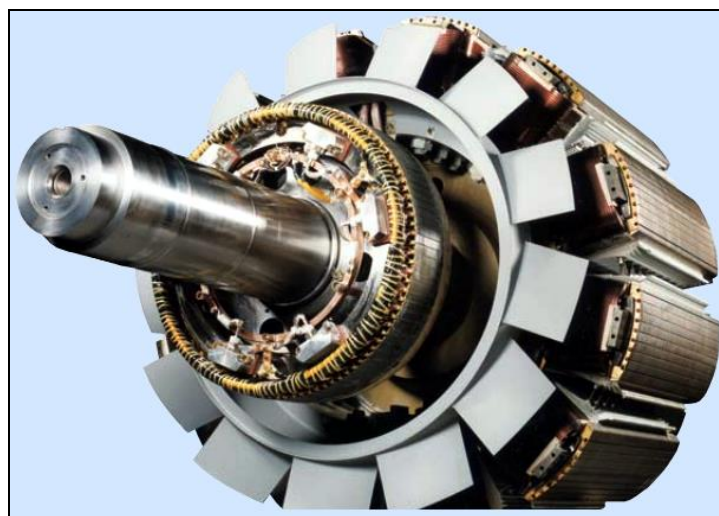
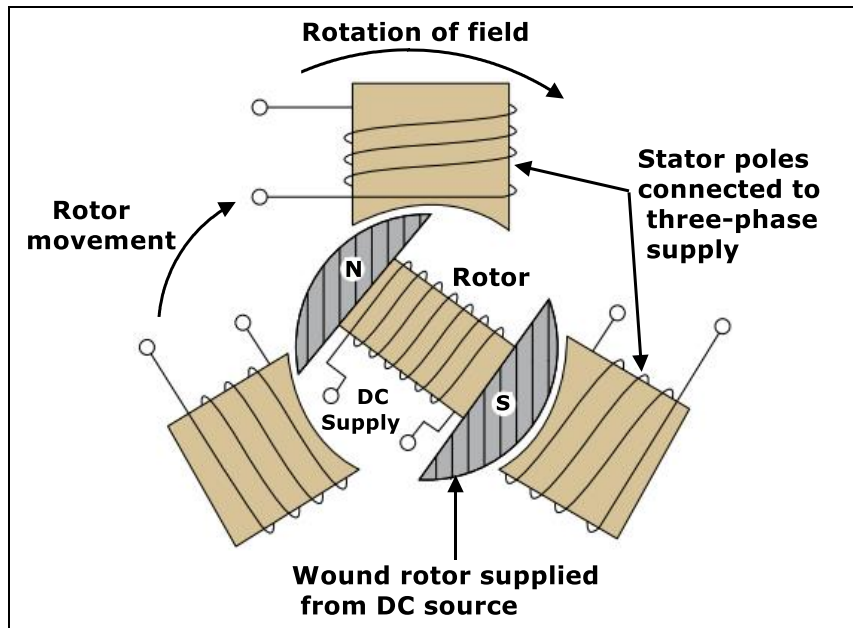

Fig. 1.1-13 Synchronous Motor
Fig. 1.1-14 External Connections of Synchronous Motor
The synchronous motor (Fig. 1.1-13) is a three-phase motor, which operates at a constant speed from no load to full load. It is similar to a three-phase AC generator. That is, it has a rotating field, which must be separately excited, from a Direct Current (DC) source (Fig. 1.1-14). The DC field excitation current can be varied to obtain a wide range of lagging and leading power factor values.